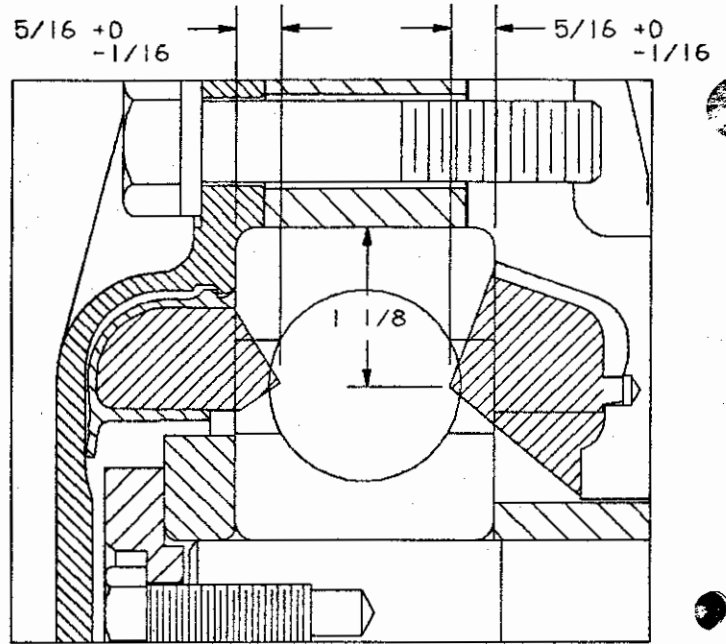

Fig 6 - Grease Contour for C.E. Ball Type Bearing
3. Refer to Fig. 6 to determine proper grease contour for the ball type C.E. bearing.